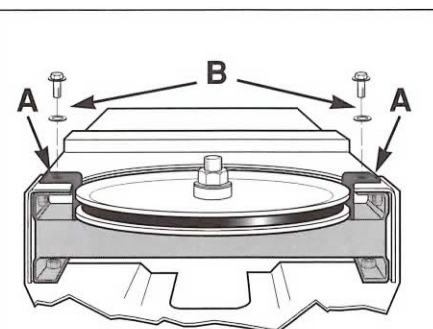

Fig. 5-4
3. Remove screws and washers (B, Fig. 5-4) and both belt guides (A). Remove the belt from the large pulley.
5. Reinstall the belt guides (A, Fig. 5-4) and screws and washers (B). Adjust the guides 1/16" - 1/8" (1.6-3.2mm) away from belt.